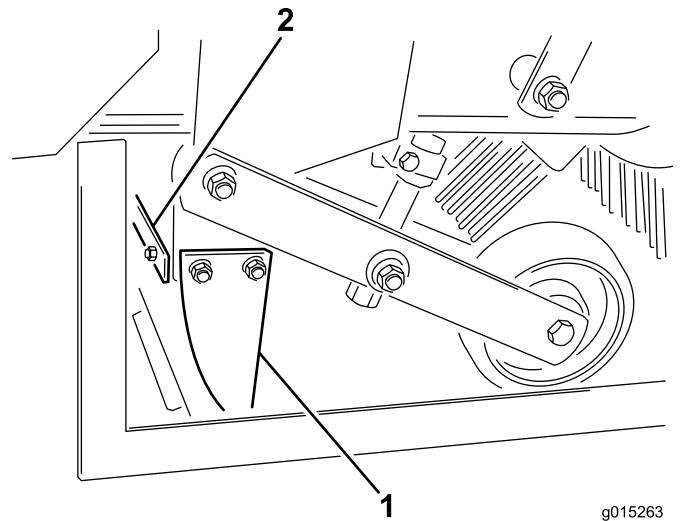

Figure 13
1. Move the flat lever forward to lower the flat (Figure 13).